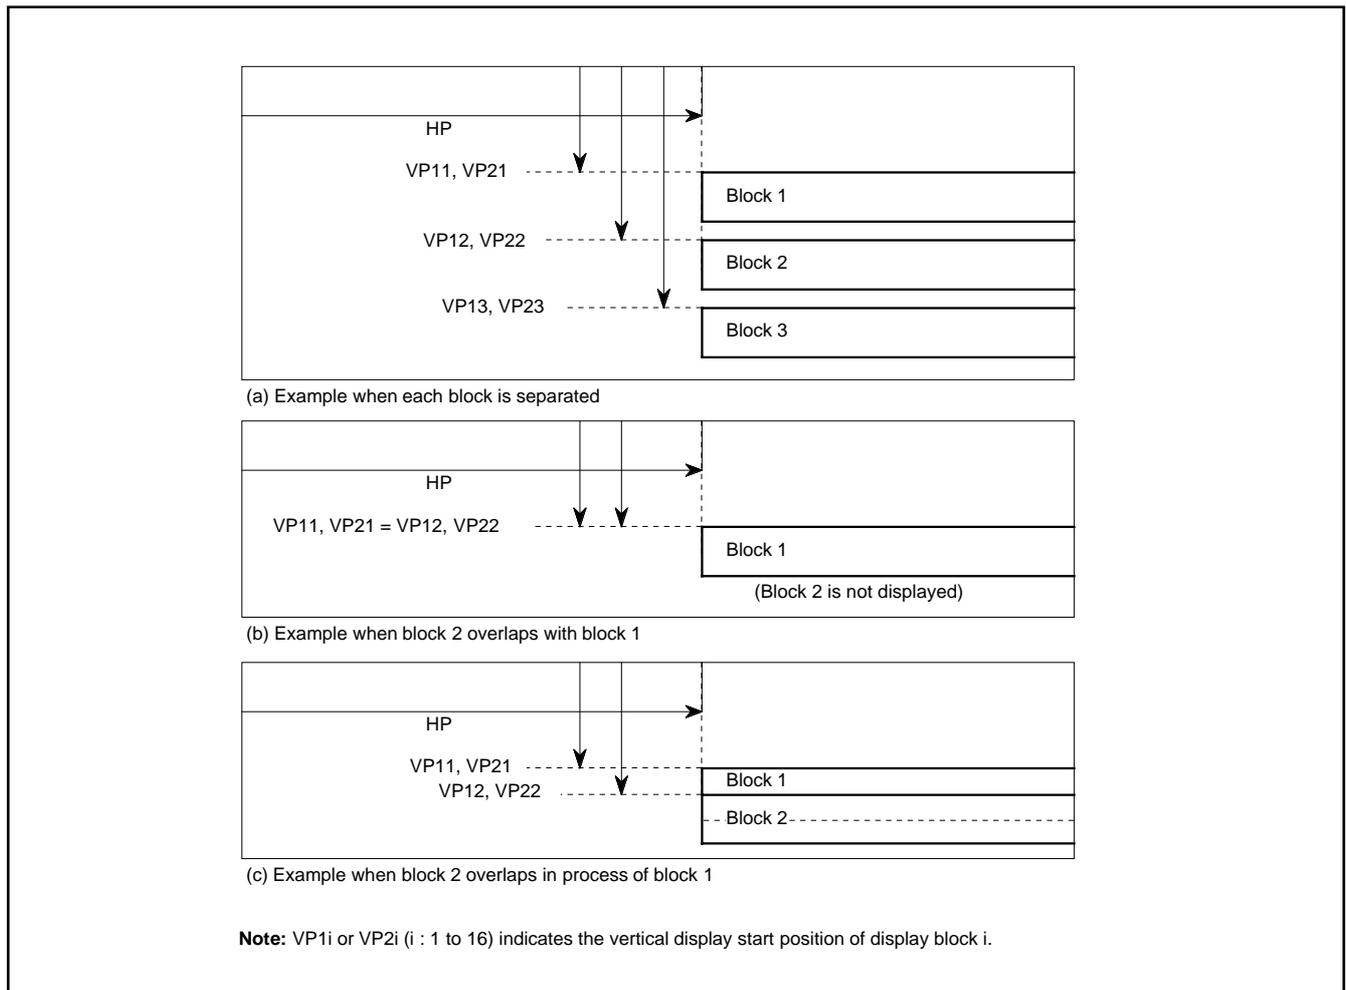

Fig. 8.11.8 Display Position
- When the display position is overlapped with another block (Figure 8.11.8 (b)), a lower block number (1 to 16) is displayed on the front.
- When another block display position appears while one block is displayed (Figure 8.11.8 (c)), the block with a larger set value as the vertical display start position is displayed. However, do not display block with the dot size of 2TC X 2H or 3TC X 3H during display period (*) of another block.